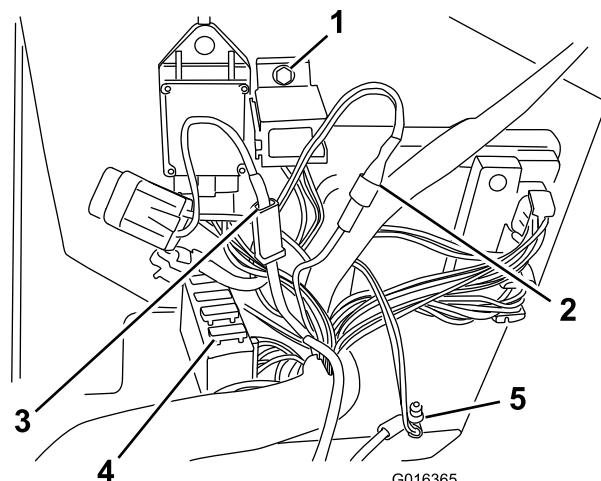

Figure 15
Note: Secure the ring terminals in the position shown on the lower part of the panel (Figure 15).
4. Secure the flasher relay base to the position shown on the side panel with a hex-head bolt (M5 x 16), a locknut (M5), and 2 washers (M5) (Figure 15).
6. Plug the twin pink wire (male-blade terminal) into the pink wire of the main wire harness (female receptacle) (switched positive) as shown in Figure 15.
7. Plug the red wire (male-blade terminal) into the red wire of the main wire harness (female receptacle) (switched positive); refer to Figure 15.
8. Replace the 10-amp fuse with the 20-amp fuse from the kit (Figure 15).